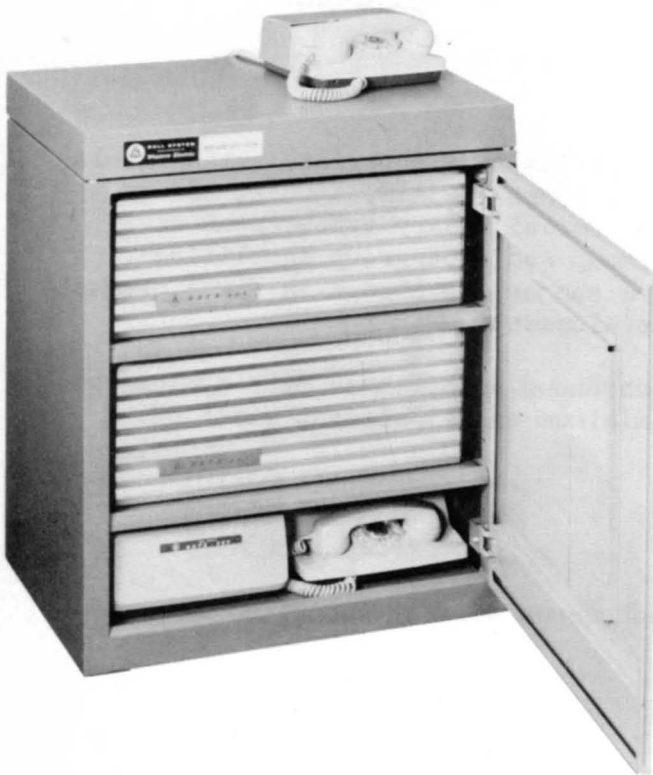
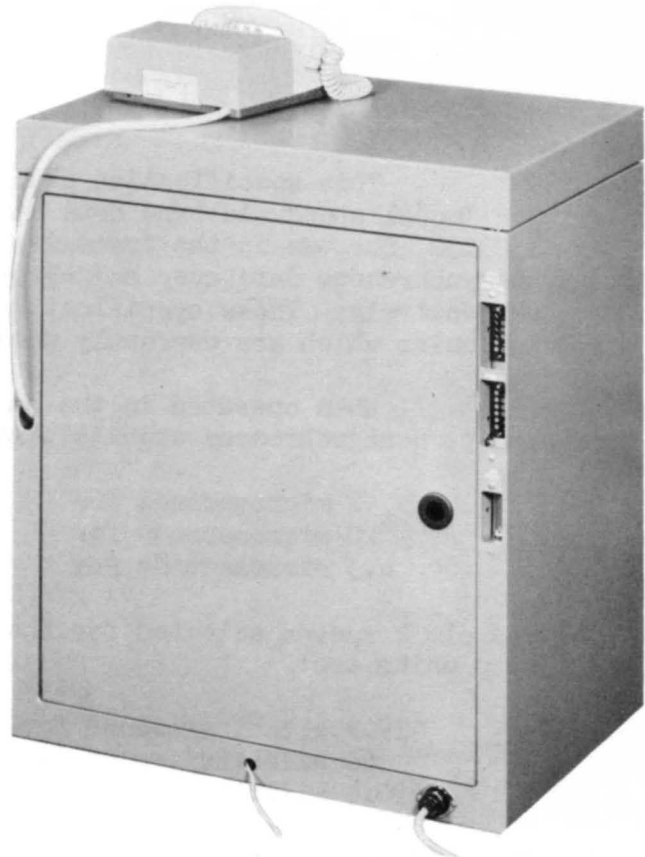
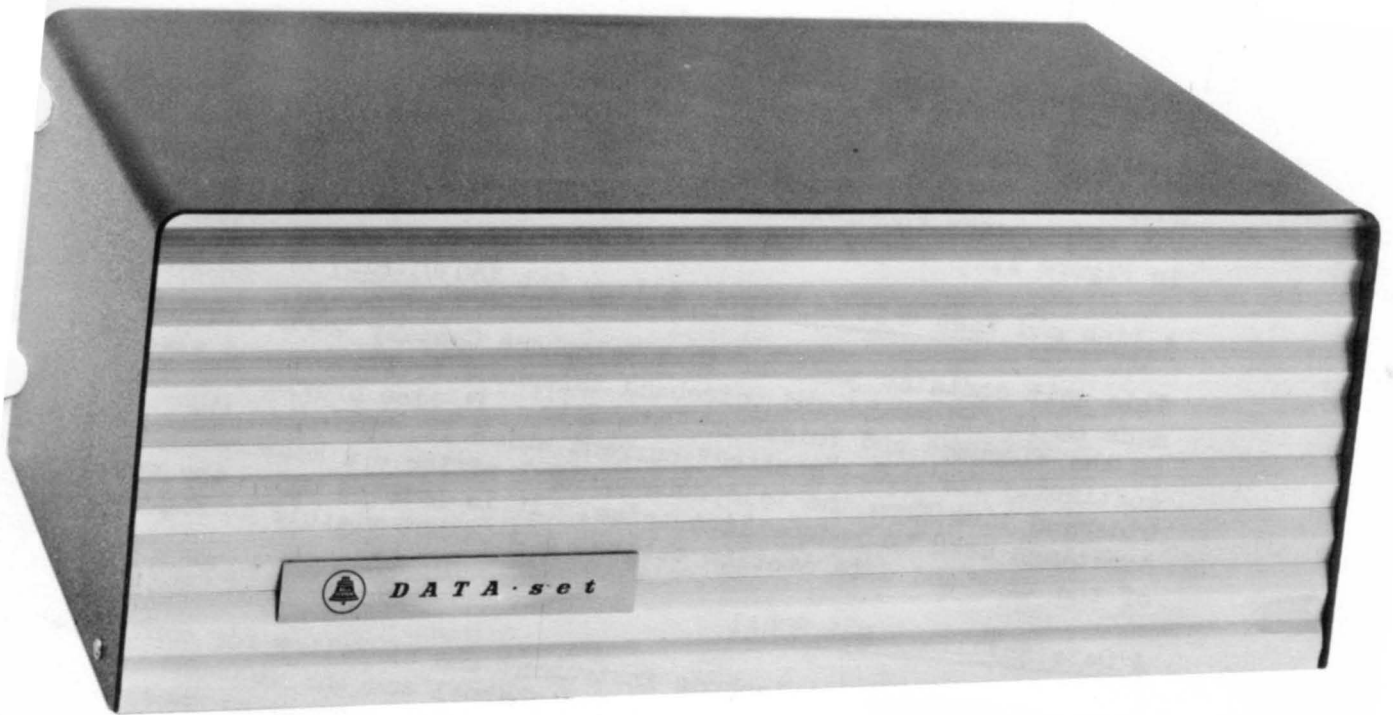

Figure 1
Figure 2
Figure 3 - Data Set X303A-Type - Front
The wideband data stations consist of a wideband data set together with equipment for the transmission of voice or control signals over an associated voice frequency coordination channel. This equipment is normally housed in a cabinet as shown in Figures 1 and 2 and is located near the business machine equipment on the customer's premises. The wideband data station is arranged to provide full duplex service on both the wideband facilities and on the voice frequency coordination channel.
The wideband data station will normally be housed in a cabinet as shown in Figure 1. In some installations, however, only the wideband data set shown in Figures 3 and 4 will be required. A simplified block diagram of the wideband data station is shown on Figure 7. A complete wideband data station will include all or some of the following items:
This cabinet (Figures 1 and 2) contains cables and wiring to interconnect the units that make up the complete wideband data station. A set of interface connectors for the Wideband and the Voiceband Data Sets appear on the rear of the cabinet to accommodate the plugs of the business machine cables as shown in Figure 2. Connection to the units within the cabinet is made by means of factory installed cables.
The wideband data set is shown located on the top shelf of the cabinet in Figure 1. A detailed description of the interface signals is given on the following pages. Front and rear views of the 303A-type data set are shown on Figures 3 and 4. The cable shown leaving the rear of the data set is used in connecting to other units within the wideband cabinet. From left to right, the four connectors shown on the rear of the data set along the bottom are: (1) for connection to telephone facilities, (2) for connection to the VSB unit described below if required, (3) for connection to synchronous business machines and, (4) for connection to nonsynchronous business machines. The receptacle for the detachable power cord is also shown.
This unit is shown on the second shelf of the wideband data station cabinet in Figure 1. At present, the half-group data station is the only one which will require the VSB modulator-demodulator. This unit modulates the output of the 303A10-type data set to the proper band for transmission over half-group facilities.
This unit provides a voltage interface as specified in Electronic Industries Association Standard RS-232A for the standard Data Set 401J which normally has a contact closure type of interface. This unit includes the oscillator of the Data Set 401E transmitter with a voltage interface. It is needed where a number of slow speed control functions are required, as with certain facsimile equipment. It is shown located on the bottom-left of Figure 1.
This data set receiver is used in conjunction with the interface adapter unit described above to provide control functions over the voice frequency coordination channel. It is the bottom-right unit in Figure 1.
This unit contains jacks so that Telephone Company tests can be made on the wideband and voiceband telephone facilities and also on the Wideband and Voiceband Data Sets. It also provides continuity for D.C. "sealing" current which is applied on the wideband line from the telephone central office - a measure sometimes used to reduce line noise. It is located under the cover of the wideband data station cabinet and is not visible in Figure 1.
This set provides a telephone instrument and circuitry for controlling the voice frequency coordination channel and the wideband facilities. It will normally be placed near the business machine equipment and can be placed on top of the wideband data station cabinet as shown in Figures 1 and 2, if desired.